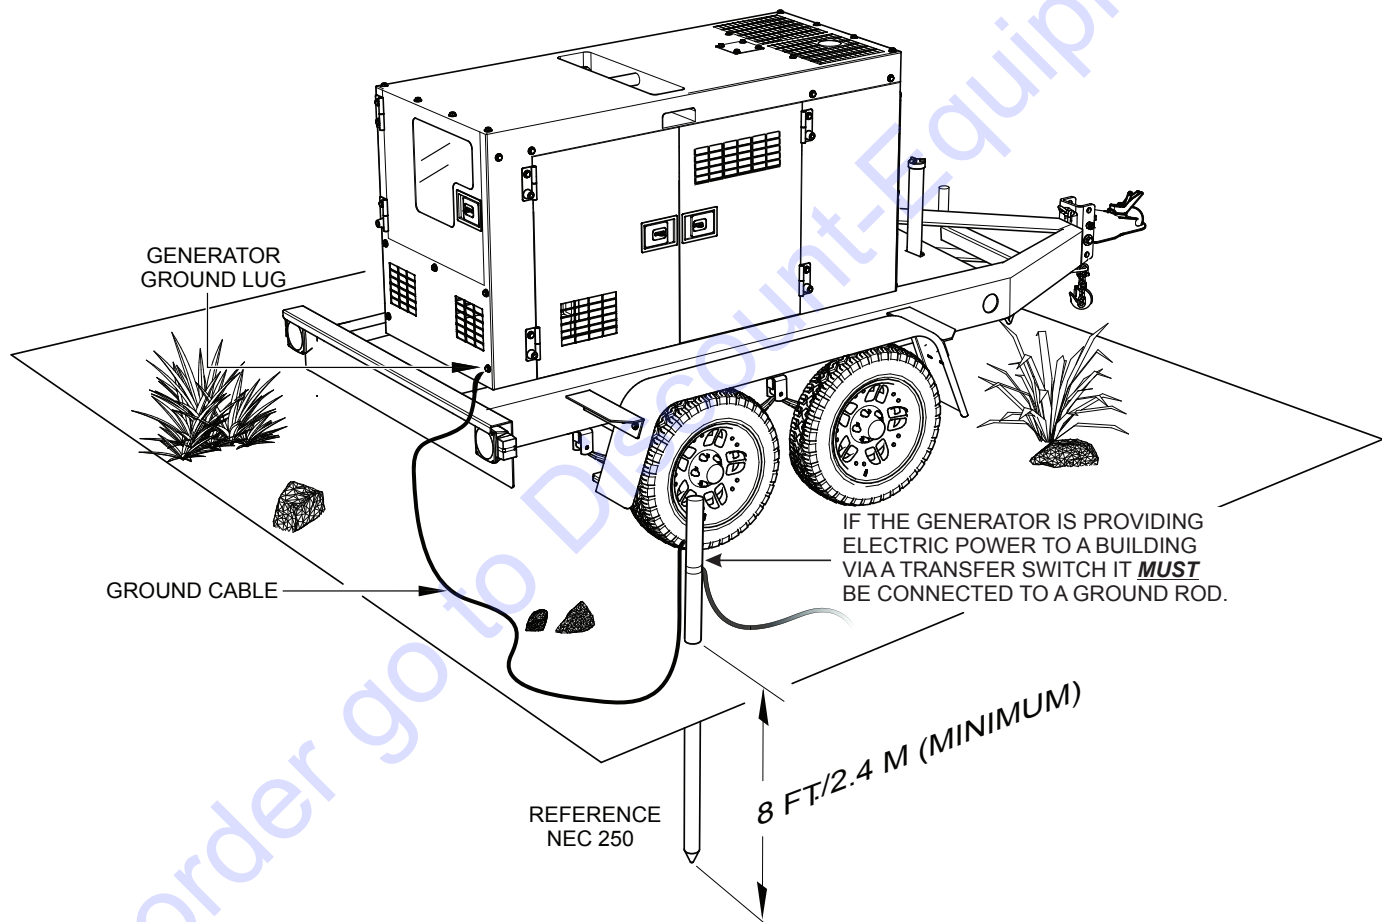

Figure 3. Typical Generator Grounding Application
Connect one end of the ground cable terminal to the generator ground point (Figure 3). Connect the other end of the ground cable to a suitable earth ground (ground rod).
If applicable, to guard against electrical shock and possible damage to the equipment, it is important to provide a good **EARTH** ground (Figure 3).
2. When grounding of the generator (Figure 3) is required, connect one end the ground cable to the ground lug on the generator. Connect the other end of the ground cable to the ground rod (earth ground).